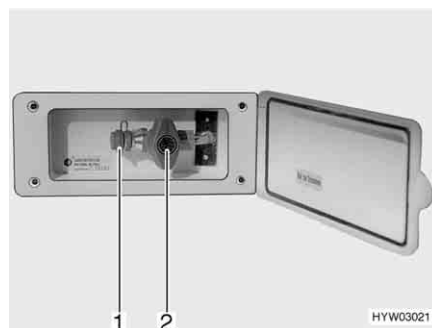

Fig. 80 External gas connection, gas isolator tap closed
The external gas connection (Fig. 80) is located at the rear or to the left or right of the vehicle depending on the model.
- Connect the external gas device to the connection point (Fig. 80,1).
- Open the gas isolator tap (Fig. 80,2).